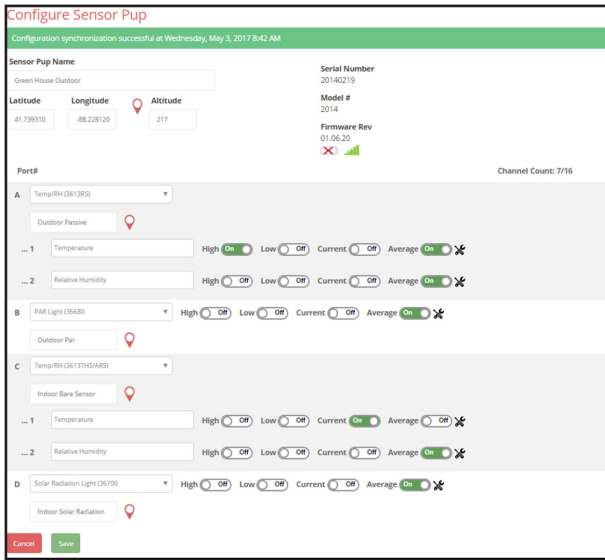

Figure 6 - SpecConnect Pup Configuration Screen
5. In the “Configure Sensor Pup” screen (Figure 6), set the Pup parameters. The latitude, longitude & altitude (optional) can be keyed in. Alternately, if the pindrop icon is clicked, a map image will be displayed that allows you to locate the device. See Data Logging & Storage (Page 13) for details on setting the data channels. Clicking the screwdriver/wrench icon brings up a screen for entering calibration offsets. Click “Save” to store any changes. Repeat for all Pups.